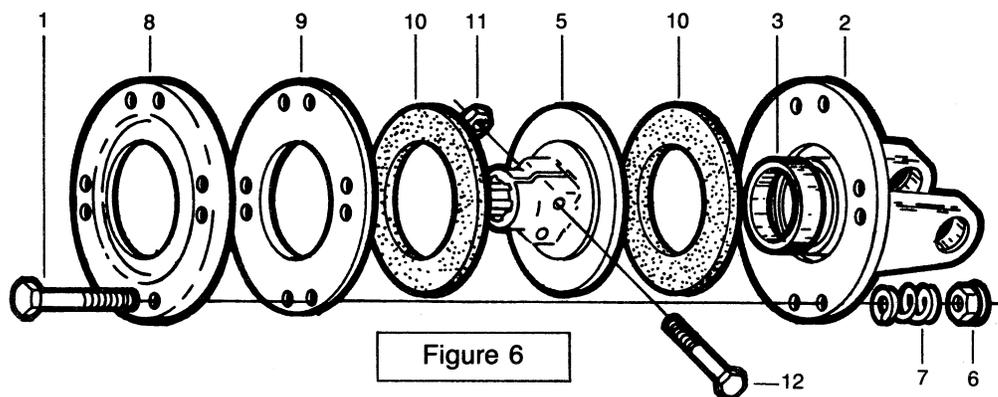

Figure 6
- Remove bolts (Figure 6, item 1) nuts (6) and springs (7) retaining clutch plates.
- Disassemble all components. Check the condition of all parts; especially the linings (10).